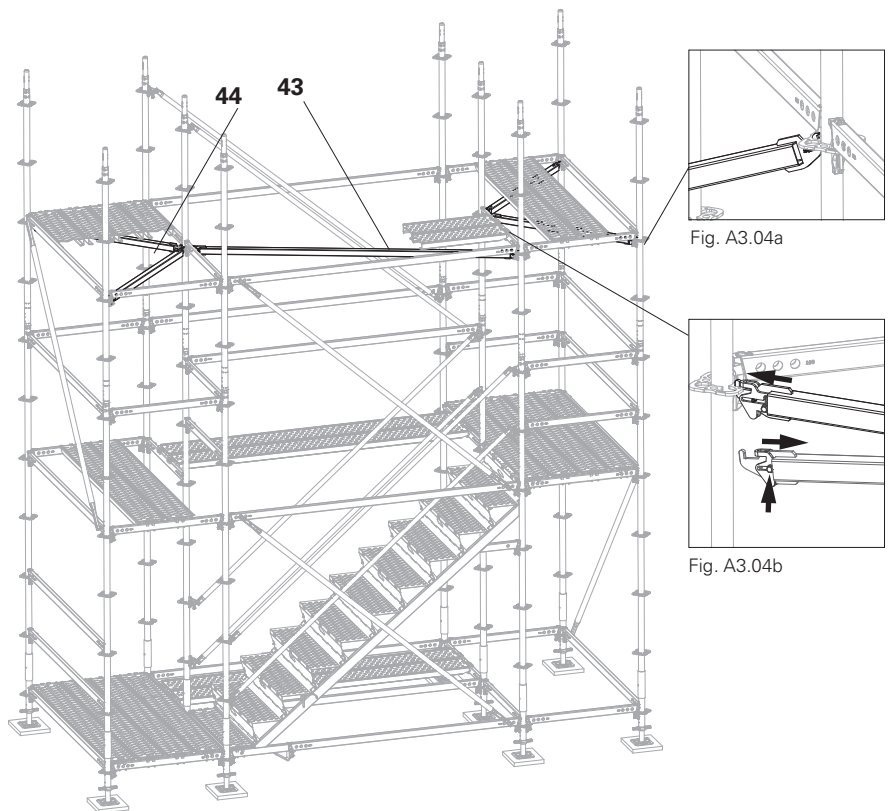

Fig. A3.04
- The Horizontal Braces UBH are mounted and secured. (Fig. A3.04)